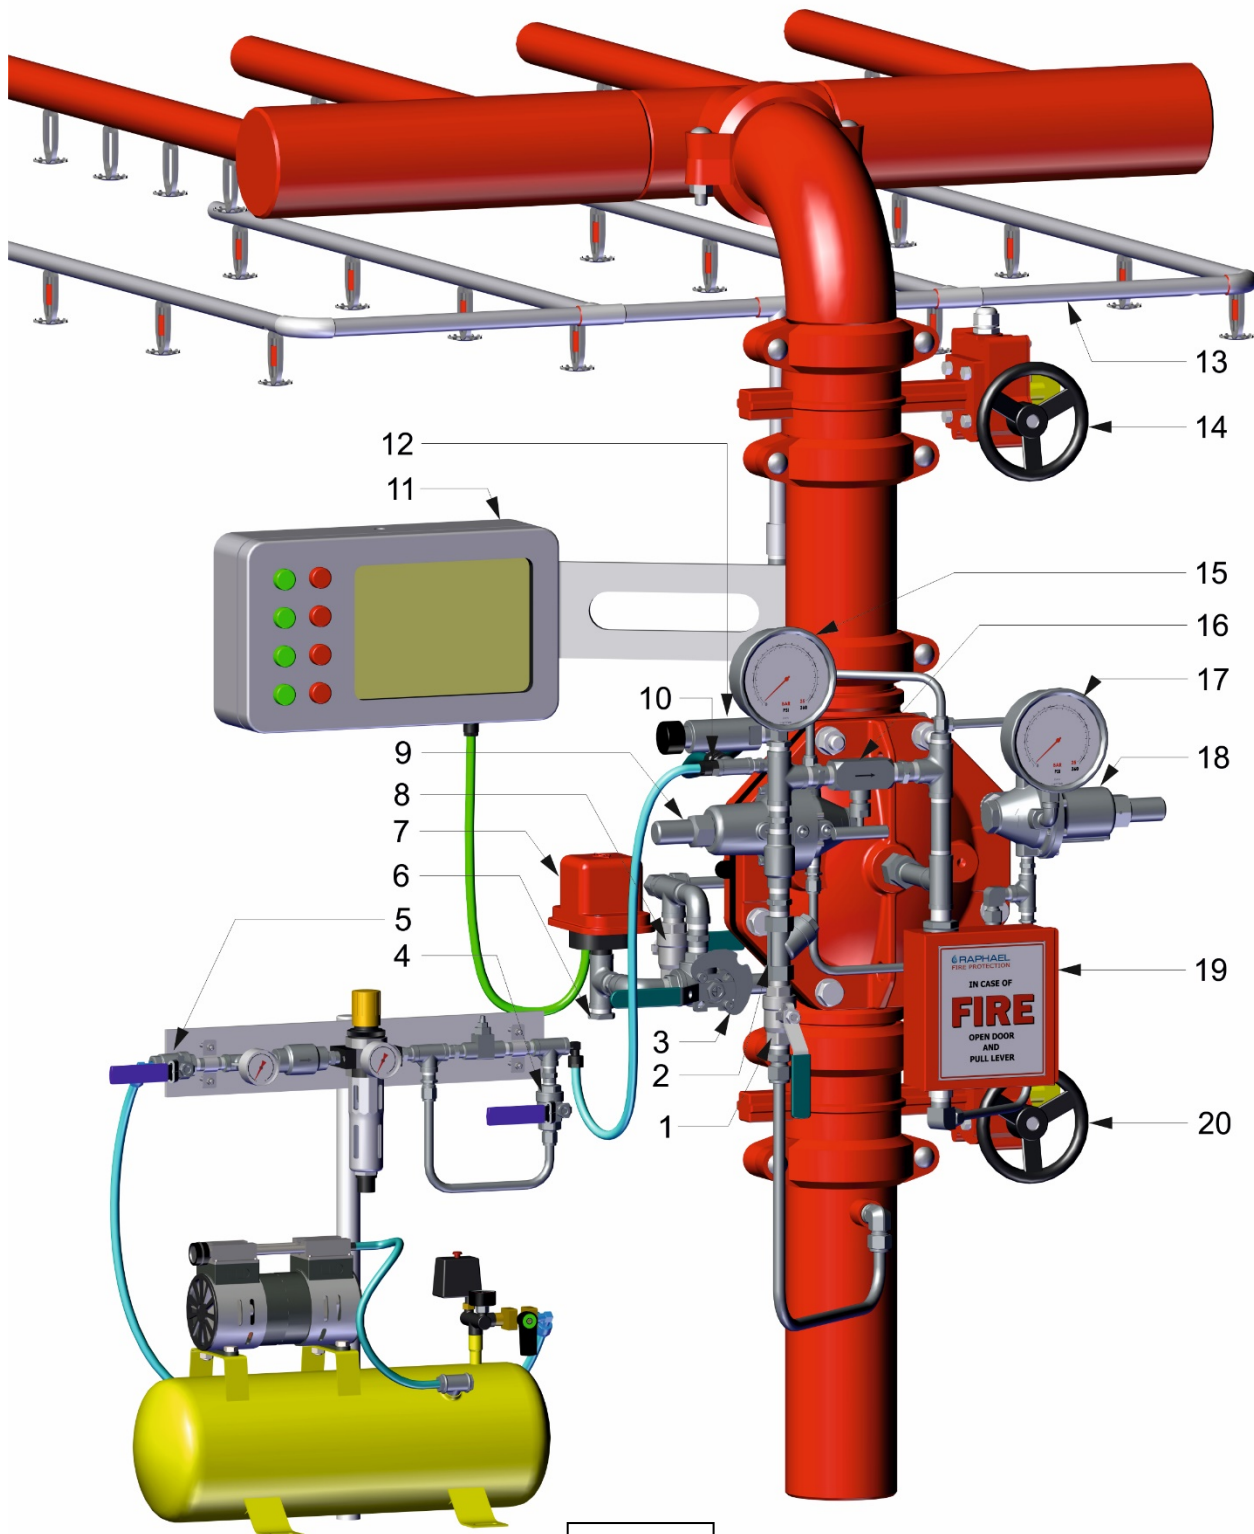

Figure 2.
## **Installation** (Reference Figure 2)
8. All connections to axillary water supply, alarms etc. should be done in accordance with **figure 2**:
(reference - figure 2)
***The procedure described should be carried out after system installation completion and a comprehensive inspection.*** (Reference Drawing - figure 2)
### **Fire Situation Simulation** (Reference Drawing - figure 2)
(Reference drawing - figure 2)
### **Resetting & placing in service** (Reference Drawing - figure 2)